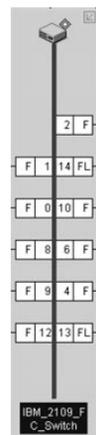

Figure 101. Port Assignments
- Expand multi-port devices to show the port assignments. Right-click the device and select **Ports** from the pop-up menu to view the ports. See Figure 101.